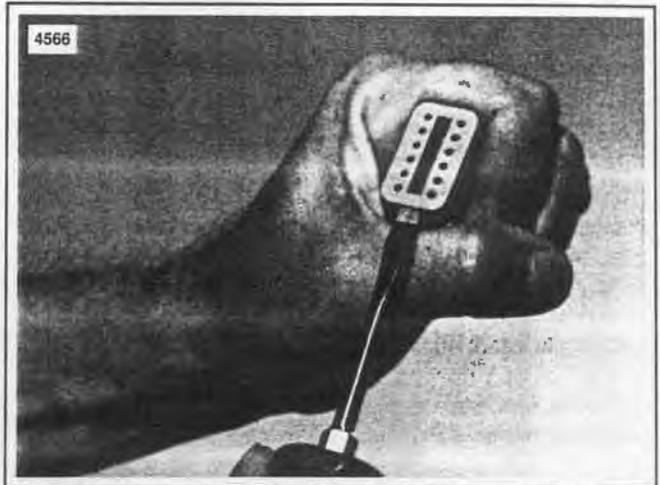

Figure A-6. Remove Secondary Locking Wedge
1. See Figure A-6. Remove the secondary locking wedge. Insert the blade of a small screwdriver between the socket housing and locking wedge inline with the groove (inline with the pin holes if the groove is absent). Turn the screwdriver 90 degrees to pop the wedge up.